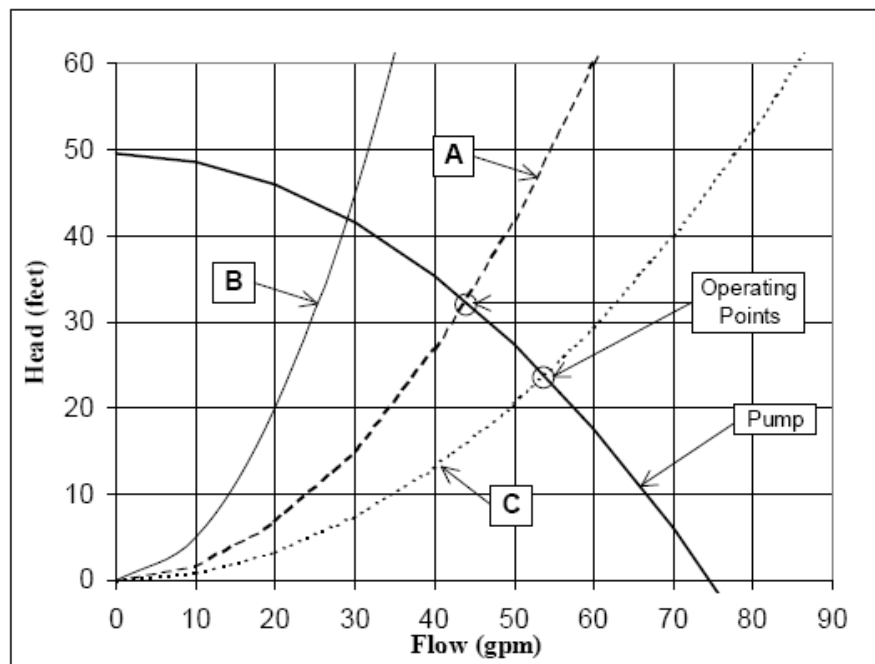

Figure 5-3 – System Test Curves
- All pool pumps must be tested and listed with the Energy Commission according to the Appliance Efficiency Regulations. Pump manufacturers must list flow rate, power, and energy factor at each of three system curves (see Figure 5-3). For pools equal to or less than 17,000 gallons, a pump must be chosen such that the flow rate listed for Curve A is less than the 6-hour turnover rate. For pools greater than 17,000 gallons, a pump must be chosen such that the listed flow rate at Curve C is less than the 6-hour turnover rate.